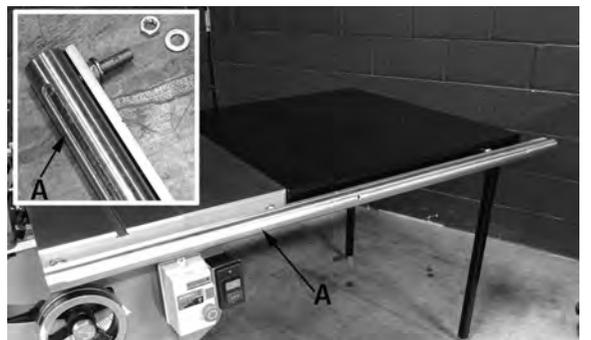

FIGURE 10
1. The rip fence bar (A) Fig.10 gets installed to the front of the main table, cast-iron extension table and the steel extension table. Remove one hex. nut and washer from all three shafts, then tighten the remaining hex. nuts up against the bar as shown in Fig.10.